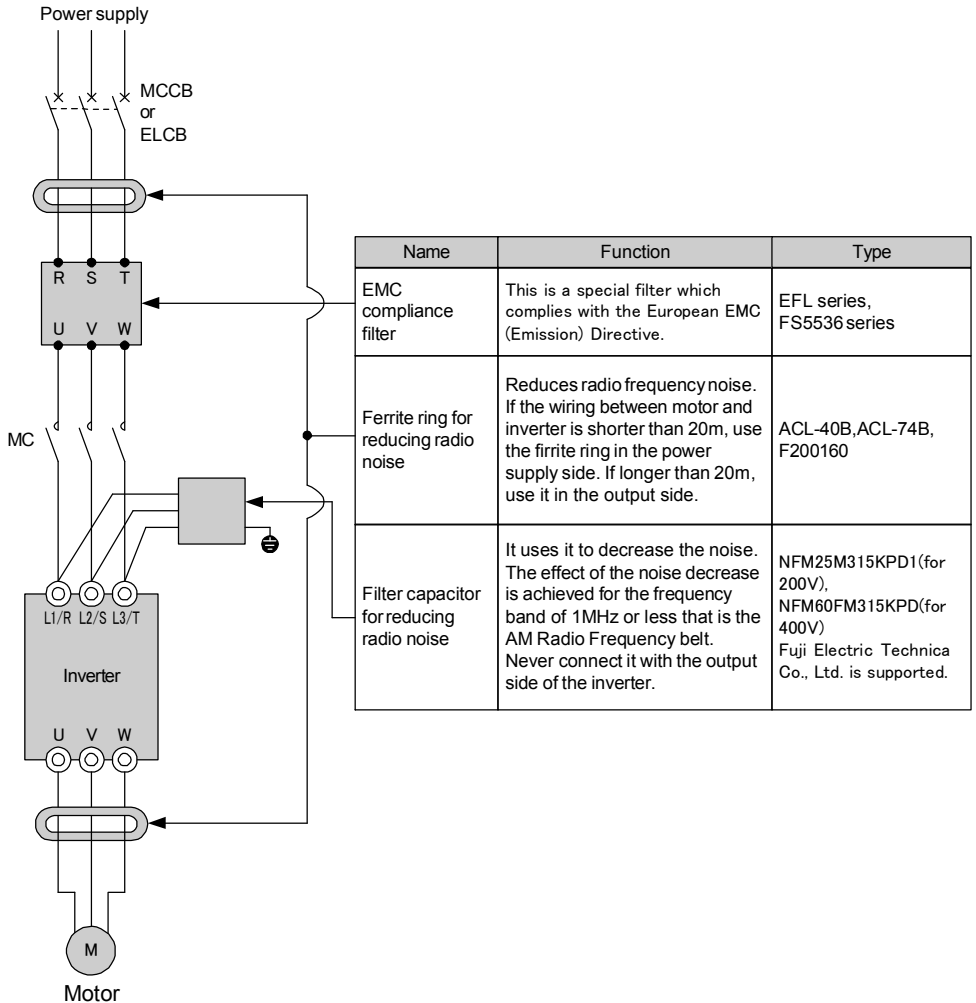

Figure 35
- 4) Use the equipment for the noise measures shown in Figure 35.